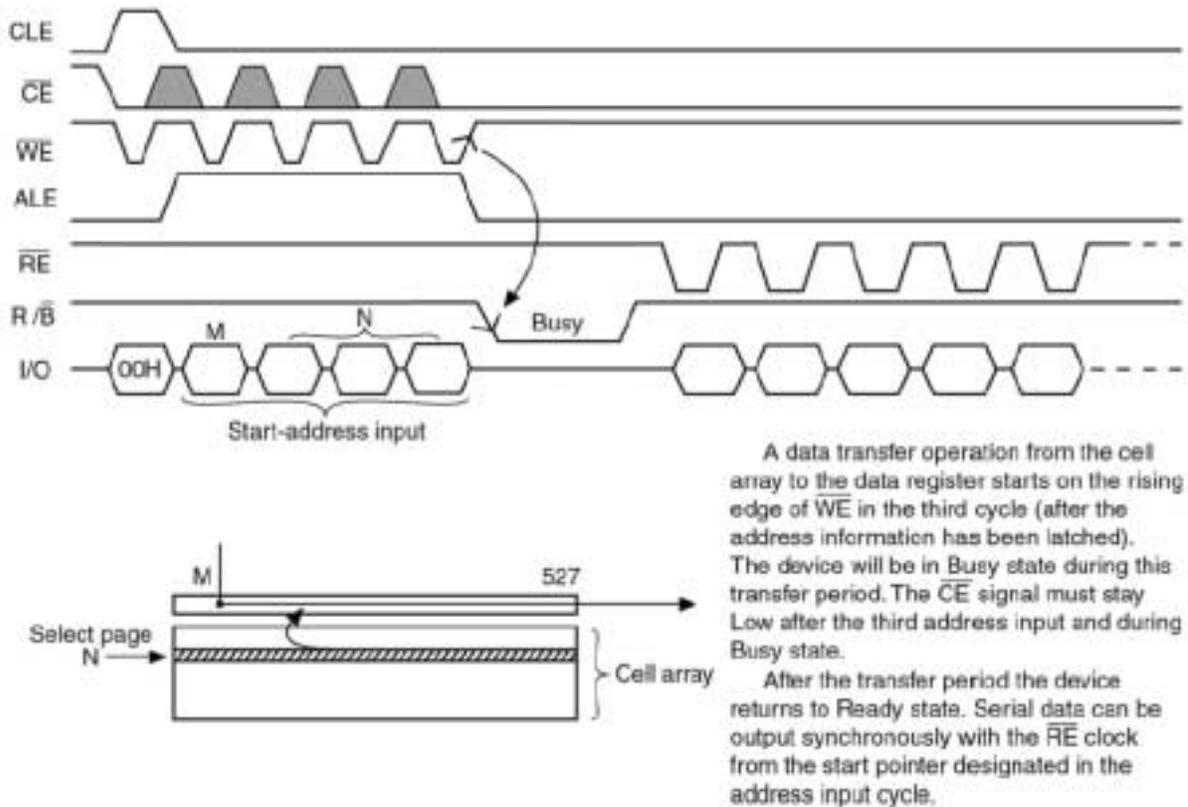

Figure 6. NAND Read Mode (1) Timing
Read mode (1) is set when a 00H command is issued to the Command register. The three-byte address N, gives the page to be read and the 1-byte pointer M gives the offset into the page. Refer to Figure 6 below for timing details and the block diagram.